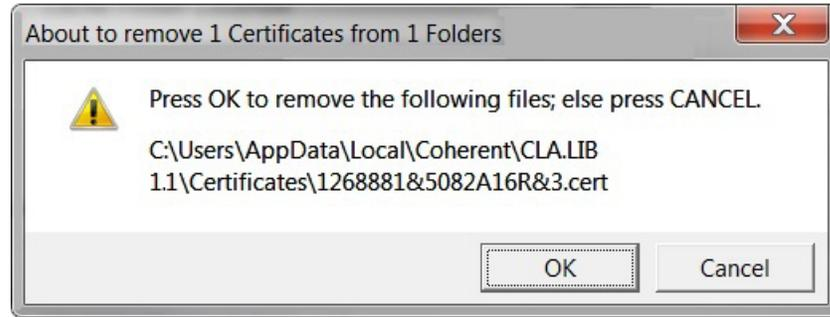

Figure 2-32. License Manager – Okay to Remove Certificate
3. A pop-up message is displayed that lists the certificates, as shown in Figure 2-32. Click OK to remove the certificate or Cancel.